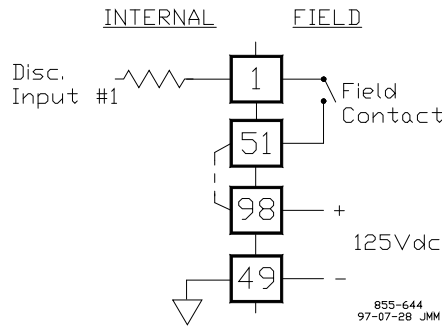

Figure 8-14—Discrete Input Interface Wiring to a 125 Vdc 48/24 Discrete FTM
- High Voltage FTM only—The common for the 125 Vdc must be tied to the discrete input common (see Figure 8-14).